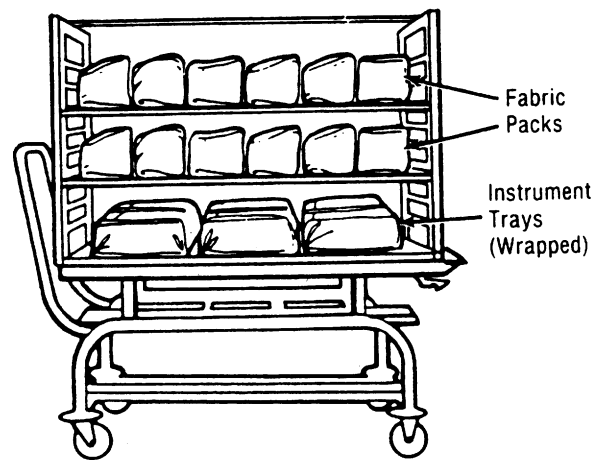

Figure 12. PLACE INSTRUMENT TRAYS ON LOWER SHELF IN COMBINED LOADS.
- b. In loads which combine fabrics and hard goods, place instrument tray(s) on the lowest shelf (Figure 12).